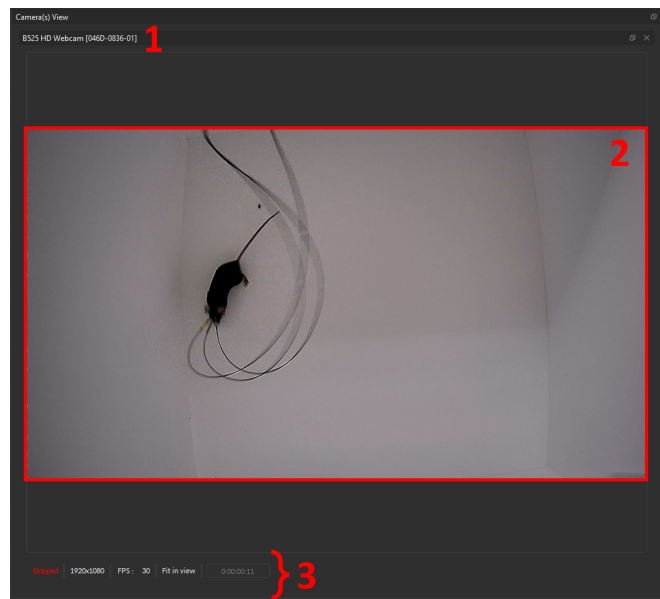

Figure 10.34: Camera View
1. The **Camera Name** (Fig. 10.34, 1) displays the serial number of the camera, which is particularly useful if multiple camera channels are used.
2. The **Camera Feed** (Fig. 10.34, 2) displays the live image of the camera.
3. The **Live Feed Monitoring Bar** (Fig. 10.34, 3) allows the user to quickly track the status of the camera feed and includes: